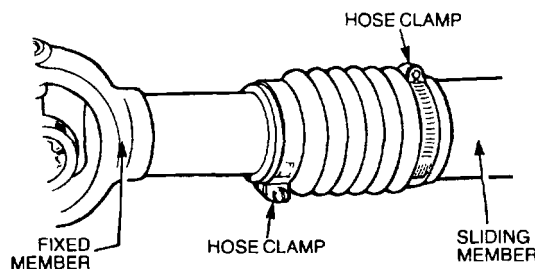

Figure 75 Hose Clamp Positions
- j. Move the sliding member to the centre of travel and tighten both hose clamps ensuring they are positioned at 180 degrees to each other (Figure 75).